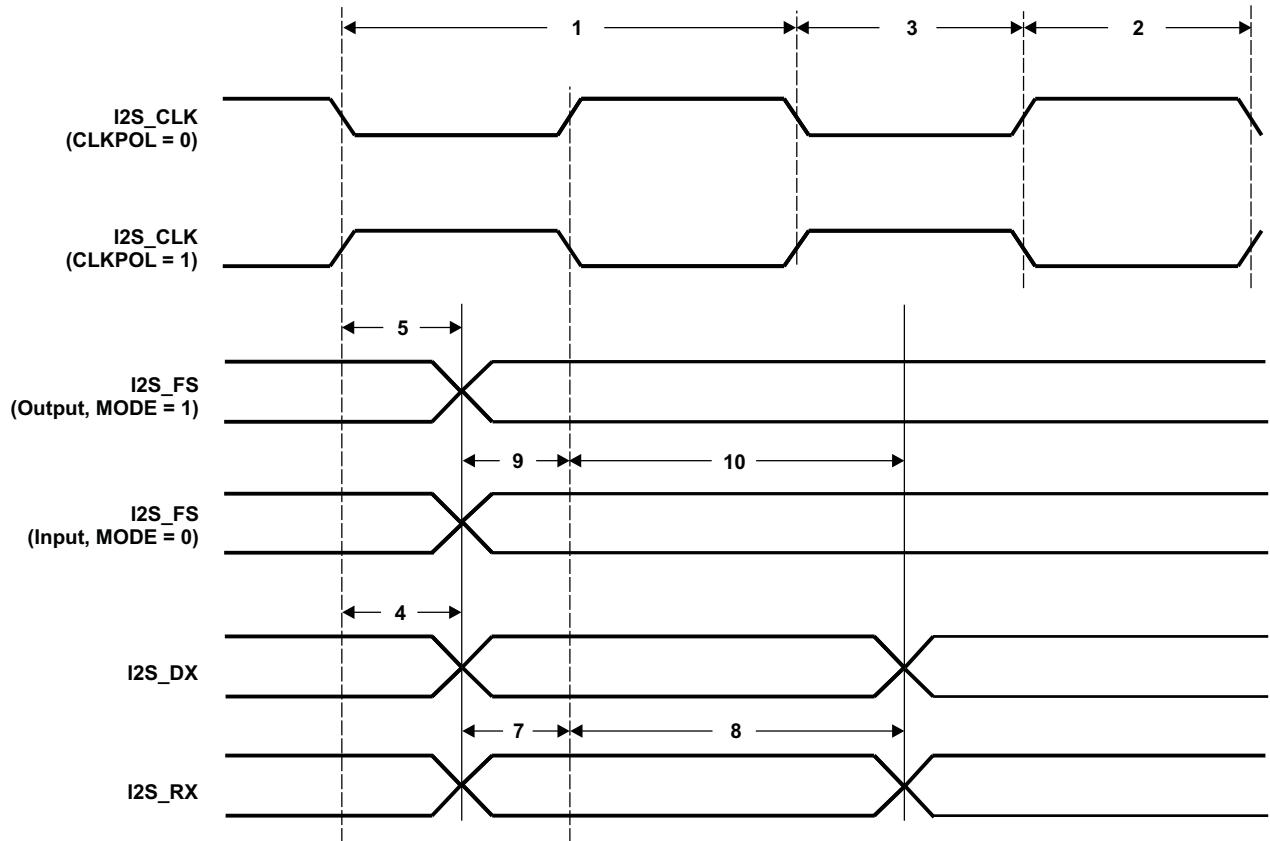

Figure 6-23. I2S Input and Output Timings
Table 6-26. Timing Requirements for I2S [I/O = 3.3 V, 2.75 V, and 2.5 V](1) (see Figure 6-23)
(1) P = SYSCLK period in ns. For example, when the CPU core is clocked at 100 MHz, use P = 10 ns.
(2) Use whichever value is greater.
(3) In Slave Mode, I2S\_FS is required to be latched on both edges of I2S input clock (I2S\_CLK).
**Table 6-27. Timing Requirements for I2S [I/O = 1.8 V](1) (see Figure 6-23)**
[I/O = 3.3 V, 2.75 V, or 2.5 V] (see Figure 6-23)
[I/O = 1.8 V] (see Figure 6-23)**